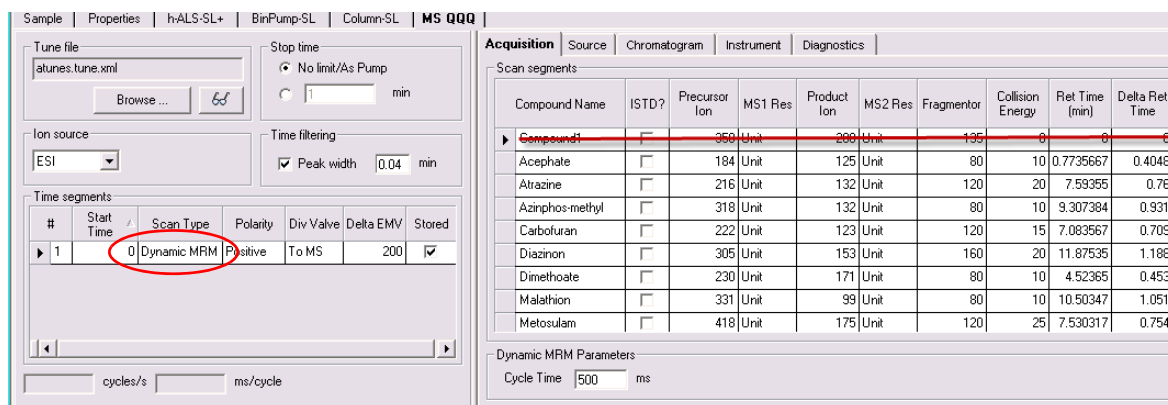

Figure 14
- The retention time window (Delta Ret Time) is scaled to the peak width found for that compound. A scale factor of 2 will create a retention time window that is 2 times the peak width (baseline to baseline). Choose a larger factor if you want to acquire more data points for the transition. The respective dwell times for MRM transitions will also decrease, depending on the number of overlapping peaks and their respective peak widths. See Figure 14.
- If you manually select Dynamic MRM in the “Scan Type” under “Time Segments” as shown in Figure 14 before you update the method, the transition table is cleared to contain only “Compound1”. When you update the method, the compounds in the data file are added. As shown in Figure 14 you can delete the extraneous “Compound1”. (To delete the first row, select the row, right-click the table and click **Delete Row**.)